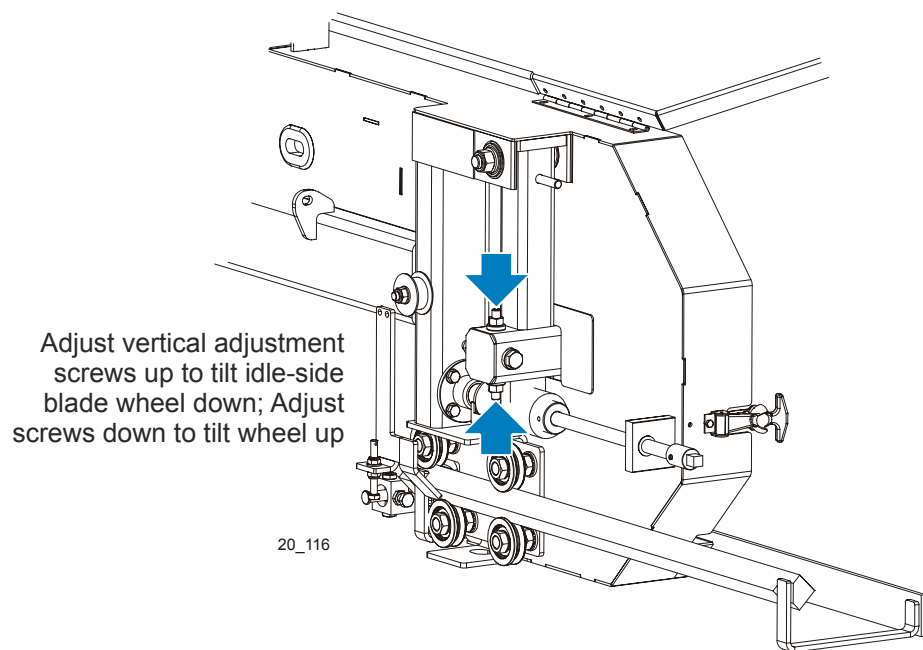

**FIG. 5-5**
**See Figure 5-5.** Use the vertical adjustment screws to adjust the drive-side blade wheel. To tilt the wheel, loosen the top adjustment screw one quarter turn. Loosen the jam nut on the bottom adjustment screw and tighten the screw. Tighten the top and bottom jam nuts.